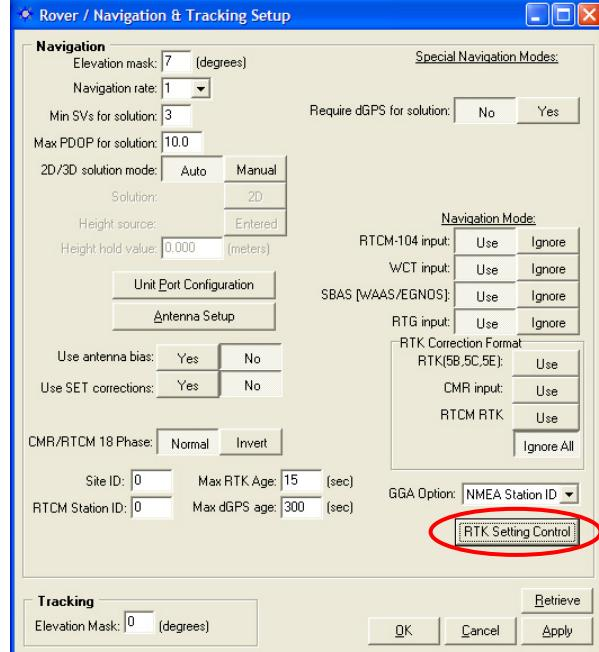

Figure 16: StarUtil-2100 -- Rover / Navigation & Tracking Setup Window
- ✓ Click the icon on the toolbar to configure the rover. The *Rover / Navigation & Tracking Setup* window opens (see Figure 16).
The options on the *Rover / Navigation & Tracking Setup* window are identical in StarUtil-2000 and StarUtil-2100, except for the *RTK Setting Control* button, which is included only in StarUtil-2100 (see Figure 16).